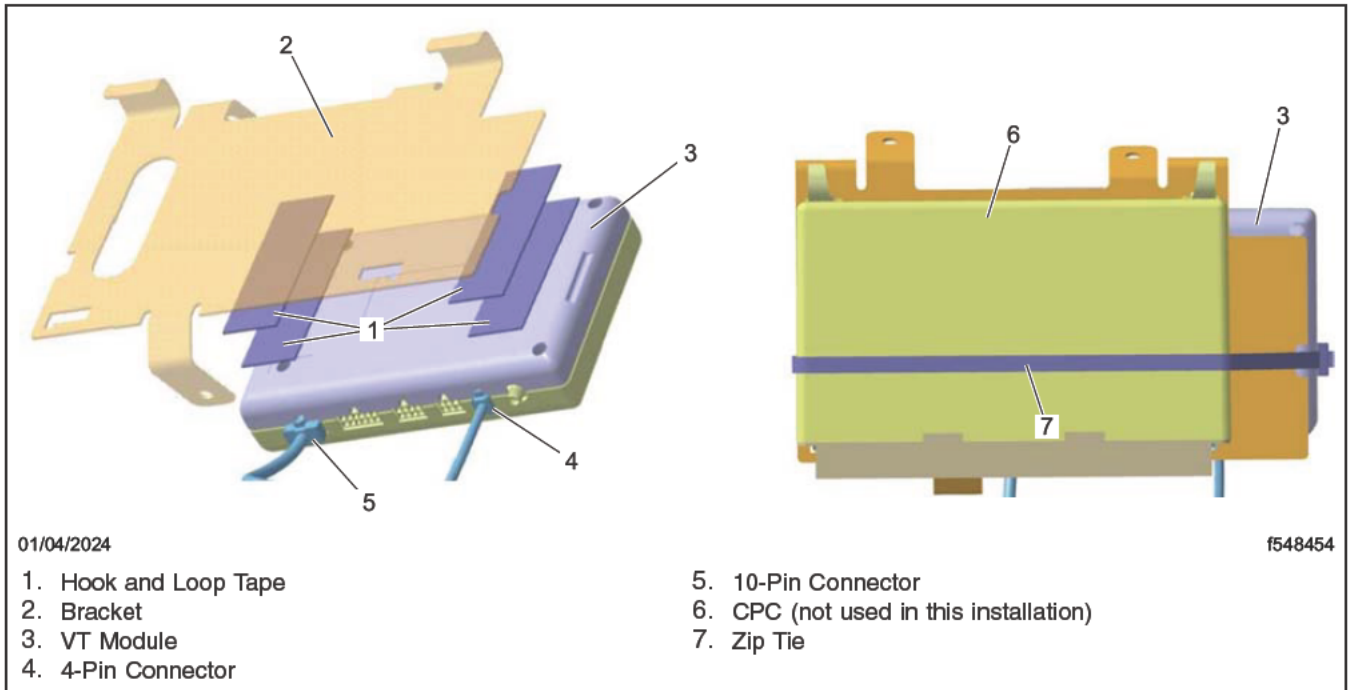

Fig. 19, VT Module Installation on the Bracket
NOTE: The VT module, shown in Fig. 19, is shown on the back side of the new bracket.
5. Use the hook and loop tape to install the VT module on the back side of the new bracket. Secure the VT module to the bracket with zip ties as shown in Fig. 19.